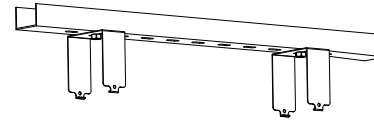

Figure 6
Step1.Mount the bracket on the rail or ceiling (Figure 6);